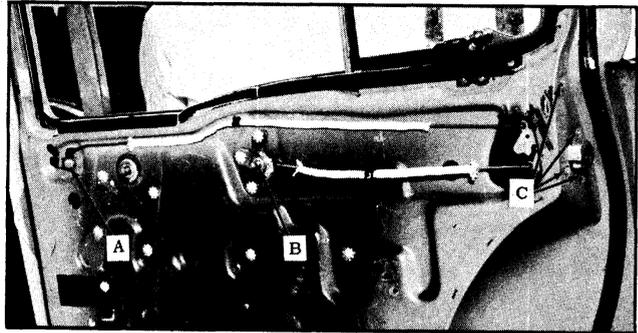

Fig. 17-9 Rear Door Lock Removal
2. Remove lever "A", remote control assembly "B", and remote control and inside locking control connecting rods from door inner panel. (See Fig. 17-9)